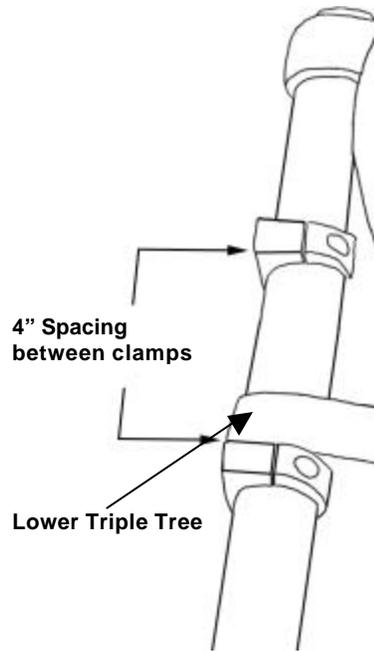

Figure 1
1. All four fork clamps in the hardware kit are identical and will be installed onto your fork tubes. See **Figure 1**.
3. If the turnsignals are mounted high on the forks, they will need to be lowered to just above the bottom triple tree. Loosely mount the left and right lower fork clamps to just underneath the bottom triple tree. See **Figure 1**.
Loosely mount left and right upper clamps with a distance between the lower and upper clamps of 4". See **Figure 1**.